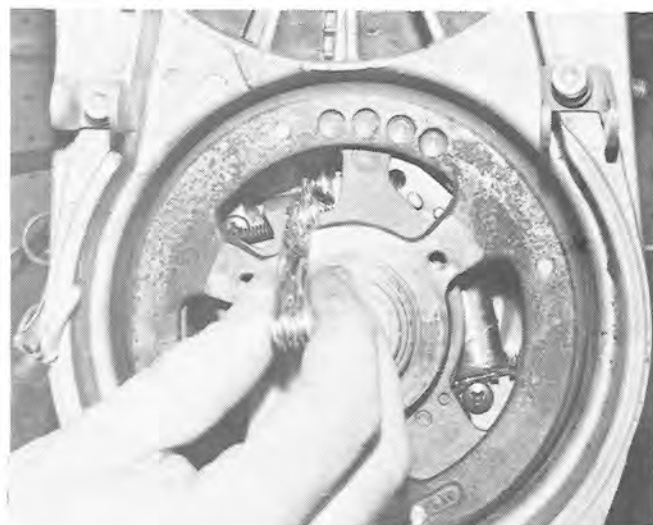

FIG. 1-63
- C. Rotate flywheel counterclockwise until points are on the high side of cam on No. 1 cylinder. Points are at maximum open position observed through opening in flywheel. Check gap with wire gauge and adjust to .015 if necessary. See Fig. 1-63.